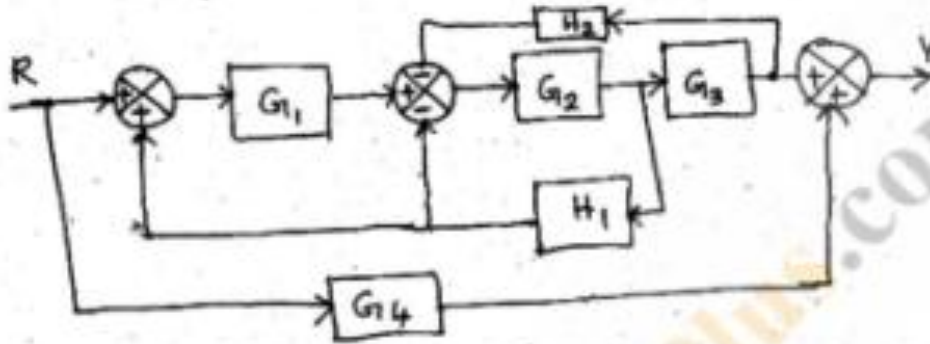

Fig. 1
- (b) Using block diagram reduction rules, convert the block diagram of Fig. 1 to a simple loop.